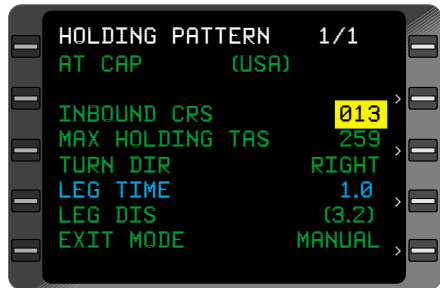

Figure 3-106
3. **HOLD Key - DEPRESS** to display **HOLDING PATTERN** Page with cursor over the **INBOUND CRS** field. (Figure 3-106)